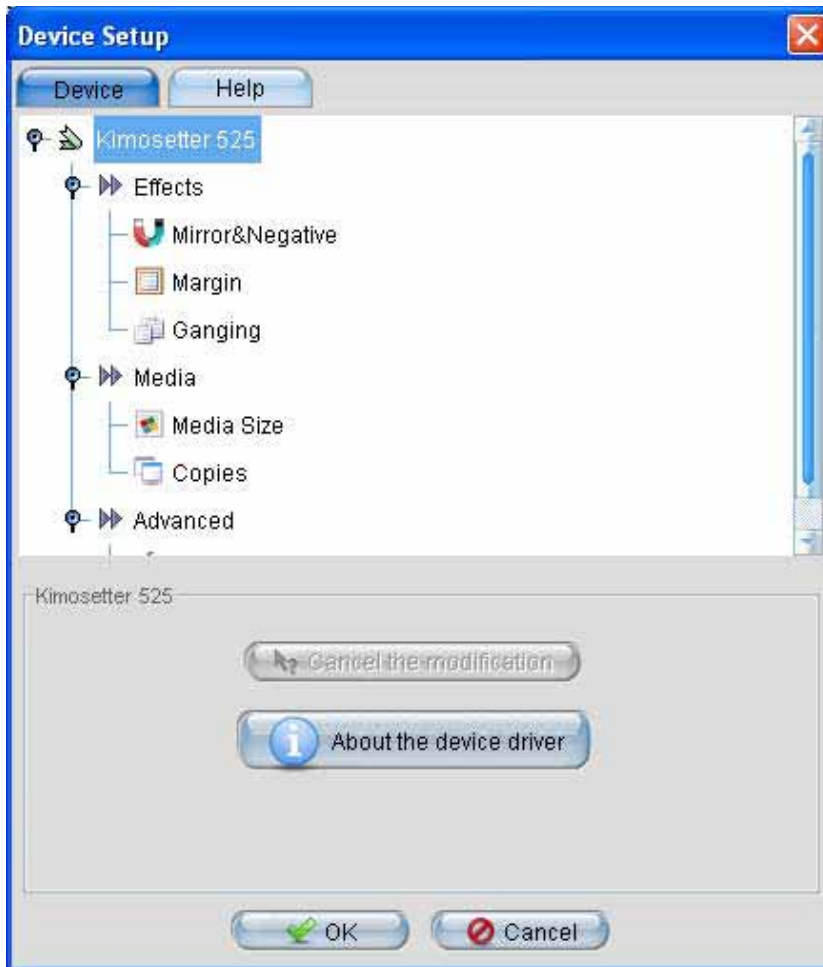

Figure1-8.
6. Clicking the **Device Setup** button in **Edit** dialog box opens the **Device Setup** dialog box (shown in *Figure1-8*), where you can set the device parameters.